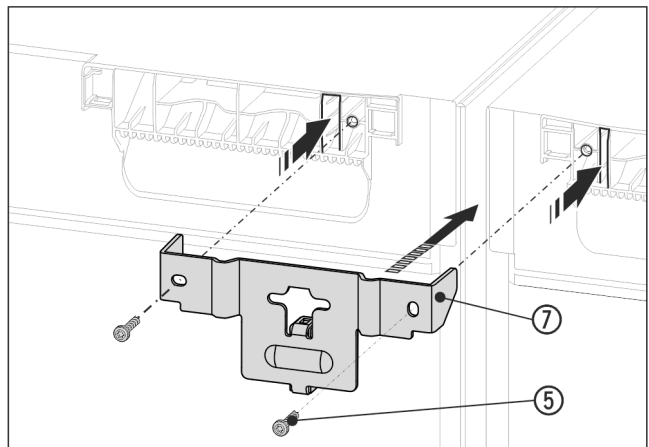

Fig. 15 Example illustration
- ▶ Slide the bracket Fig. 15 (7) onto the appliance ceiling with the lugs and with the spacer between the appliances. Screw in firmly with 2 screws Fig. 15 (5).